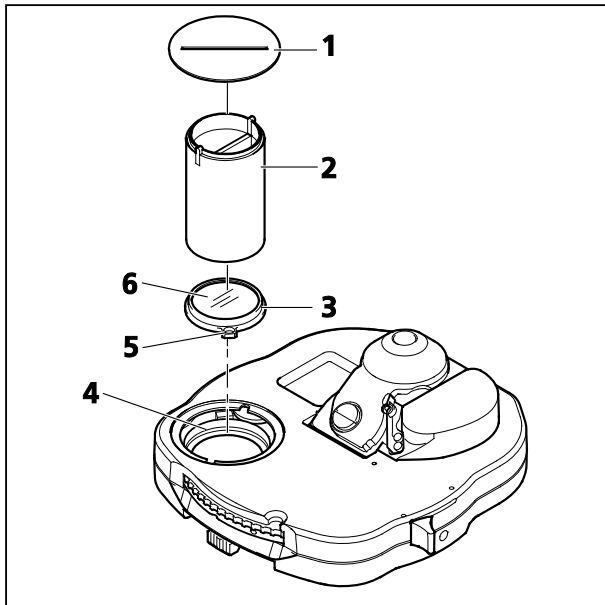

Fig. 27 Replacing the DIC prism
- Use the tool to remove cover (Fig. 27/1), or to unscrew it (if the cover is at the bottom). Turn the turret disk until the DIC prism to be replaced appears in the blank aperture (Fig. 27/4). Hold the disk by its knurled ring.
- Unscrew the retaining ring using the so-called dual-function tool (Fig. 27/2).
- Then, screw the tool (Fig. 27/2) with the threaded side into the prism mount (Fig. 27/3) and pull out the DIC prism (Fig. 27/6).
- Remove DIC prism (Fig. 27/6) from the tool and screw on the new, desired DIC prism.
- Mount the DIC prism in reverse order, paying particular attention to the correct orientation of the DIC prism: tongue Fig. 27/5 must be in the recess of the mount in the condenser. Ensure that the labeling on the knurled ring of the turret disk is correct.